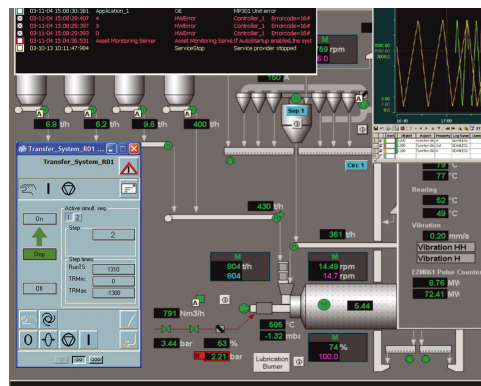

Figure 10. Comprehensive operator functionality for reliable control
- **Comprehensive Operator Functionality for Reliable Control:** System 800xA Process Portal provides a complete set of operator functions that includes realistic process graphics with standard faceplates, superior trending capabilities, intelligent alarm and event handling, production reporting, and remote messaging (Figure 10).